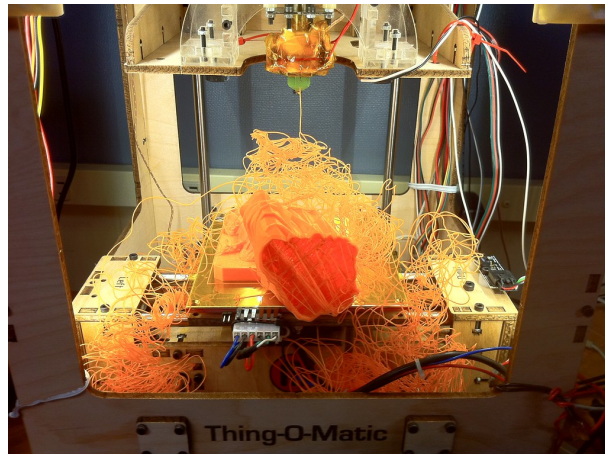

Figure 1: Extruded filament that resembles spaghetti
- **Problem:** 'Spaghetti' - Figure 1 defects due to print malfunctions or improper adjustments.